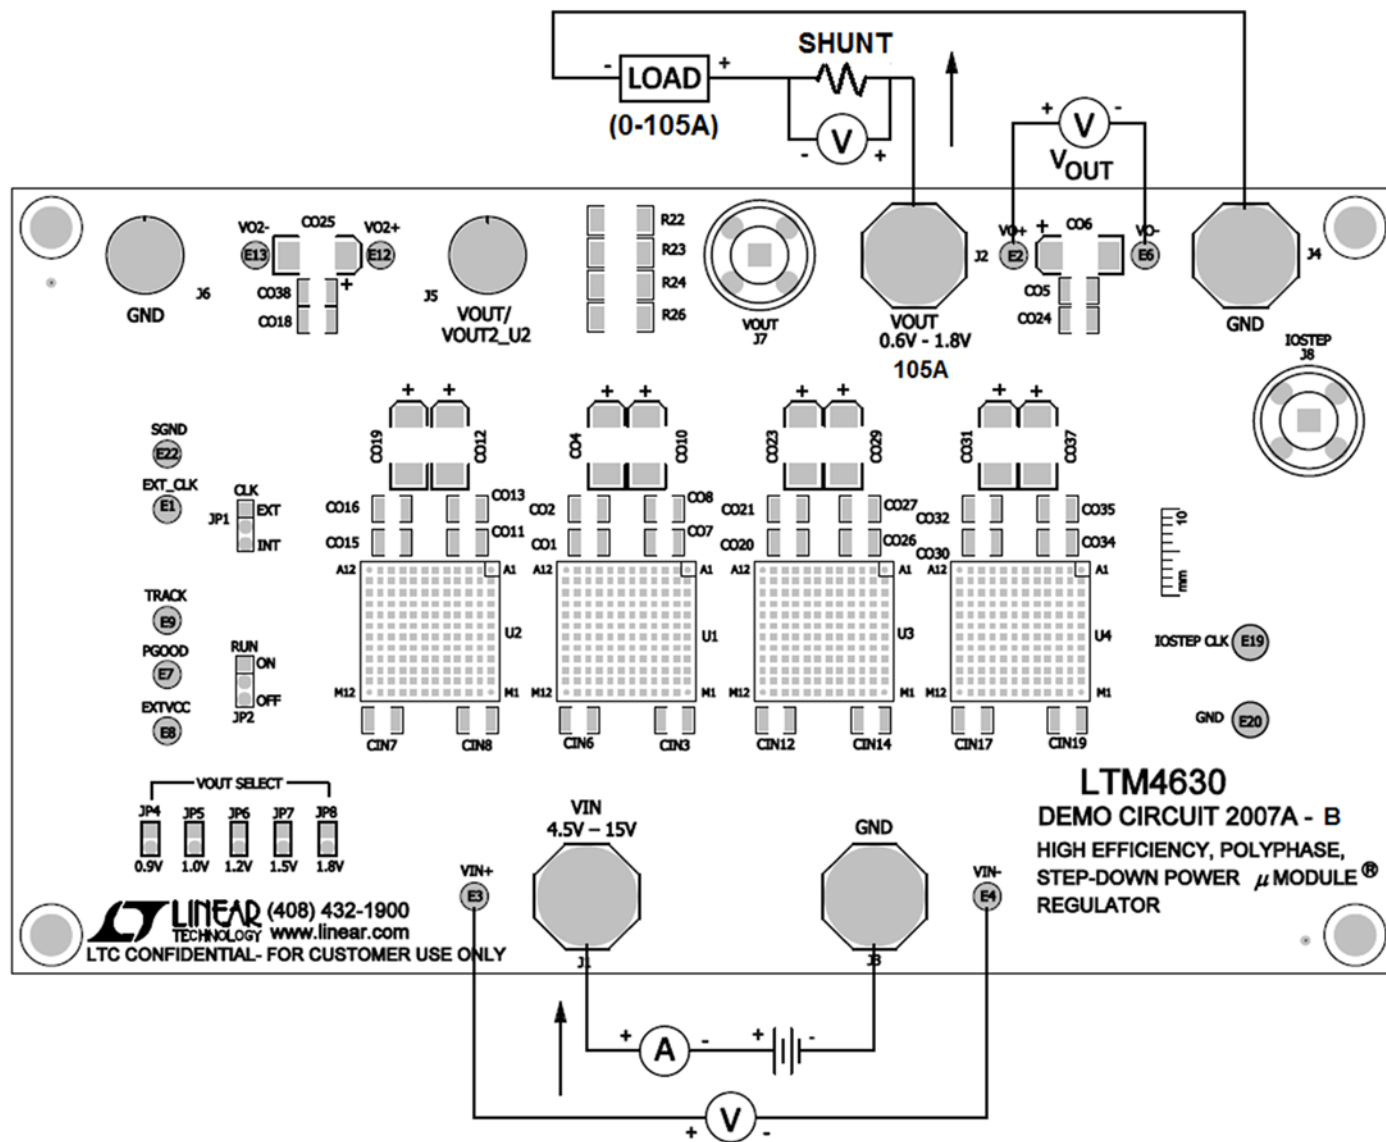

Figure 2. Test Setup of DC2007A-B
Demonstration circuit DC2007A-B is easy to set up to evaluate the performance of PolyPhase operation of the LTM4630EV. Due to the high input/output current, user should select the proper input supply/load/cable which can sustain the full load operation. It's recommended to pull load current from J2 and J4. The load current pulled from J5 and J6 shouldn't exceed 18A. Please refer to Figure 2 for proper measurement setup and follow the procedure below:
2. With power off, connect the input power supply, load and meters as shown in Figure 2. Preset the load to 0A and V_{IN} supply to 12V.